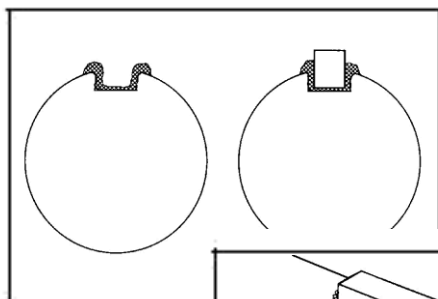

Figure 4
4. Mix a sufficient amount of **Titanium Putty #10760** to do the repair job. Apply **Titanium Putty #10760** to the keyway area with a putty knife or plastic spatula. Build up a thicker area on the side walls than on the bottom so as not to raise the key up and ensure a close tolerance fit (**Figure 4**).